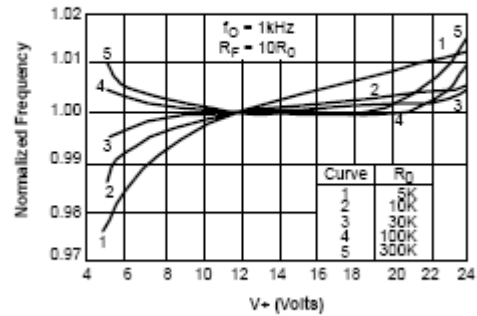

Figure 8. Typical f_0 vs. Power Supply Characteristics
where C_D is the timing capacitor across pins 13 and 14. For optimum temperature stability, R_D must be in the range of 10kΩ to 100kΩ (see Figure 8.)
VCO Timing Capacitor (Pins 13 and 14): VCO frequency is inversely proportional to the external timing capacitor, C_D , connected across these terminals (see Figure 8.) C_D must be non-polar, and in the range of 200pF to 10μF.
- Calculate value of C_0 from design equation (1) or from *Figure 8* $f_S = f_0$: